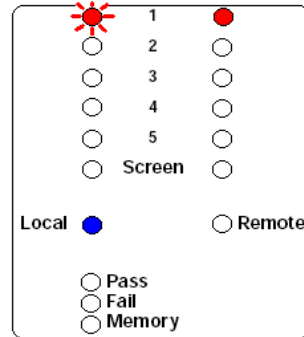

Fig 11. Pin 1's CONNECTED (Local).
8. The Local LED should be on. Press the Test button again and release it as soon as Pin 1 on the local side starts sending information to the other end, this is indicated by the LED flashing. If there is a connection to pin 1 at the other end then the result will be seen at the Remote side of the Local unit and Pin 1 will light on the Local and Remotes sides at the Remote end (Fig 11 & 12).